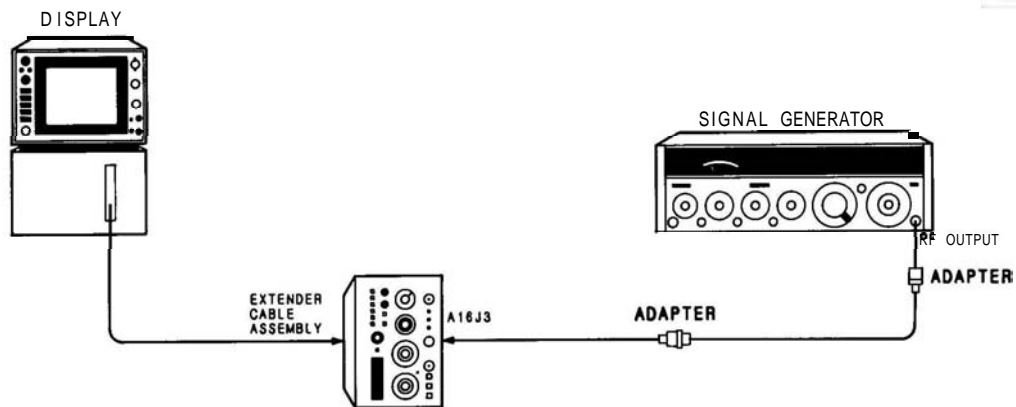

FIGURE 4-10. RESOLUTION BANDWIDTH ACCURACY TEST SETUP, 30 kHz TO 1 kHz
13. Connect equipment as shown in Figure 4-10.